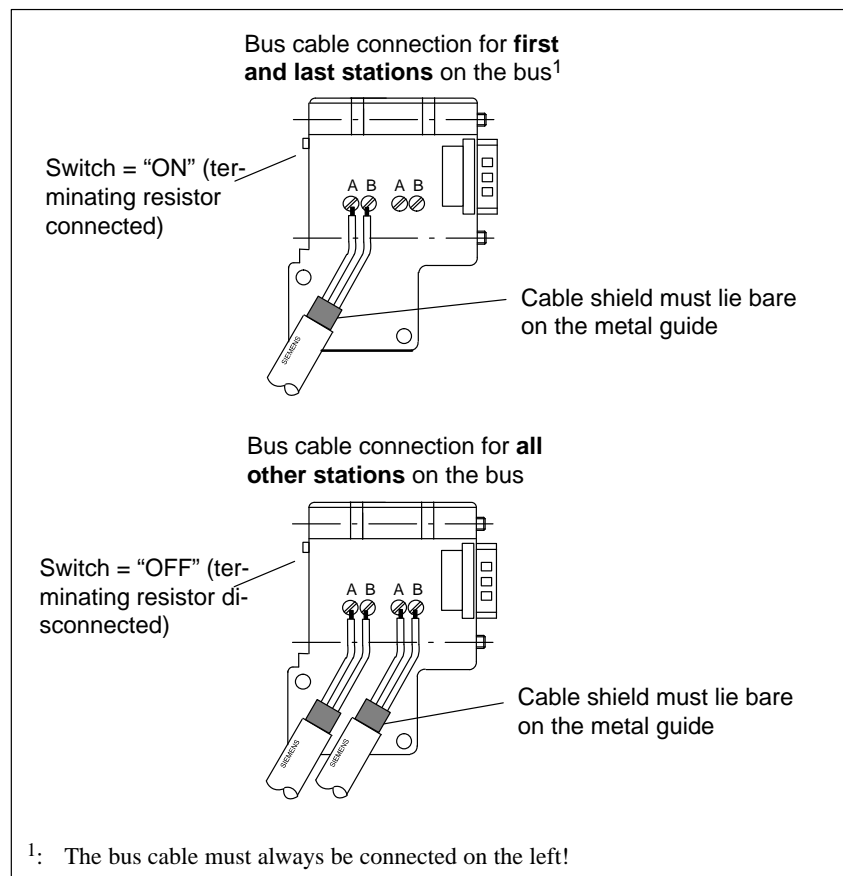

Figure 3-15 Connecting the bus cable to the bus connector (6ES7 972-0B.40 ...)
3. Insert the green and red conductors in the screw terminals as shown in Fig. 3-15.